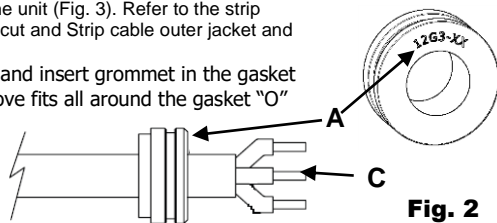

Fig. 2
- Place the cord grommet on the cord, the side with wire size marking "A" shall face outward as shown in Fig. 2.